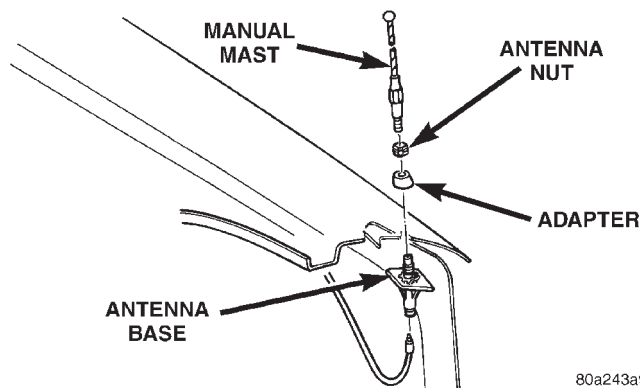

Fig. 6 Antenna Mounting Removal
- (1) Inside trunk, pull the right side trunk liner aside.
- (2) Unplug antenna lead from base of antenna body.
- (3) Remove antenna mast by unscrewing mast from antenna body. Use tape (electrical) to prevent scratching of the mast.
- (4) Remove cap nut and adapter (Fig. 6).
- (5) Pull antenna body down through the quarter panel.